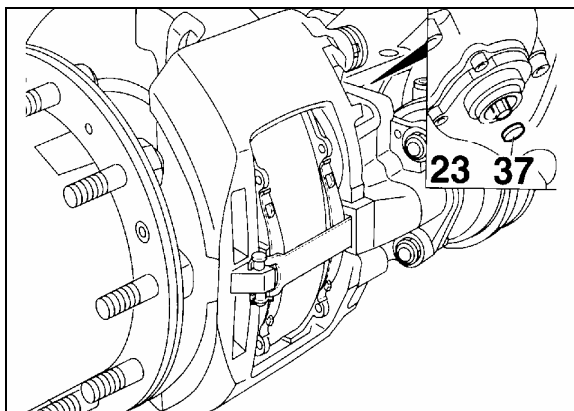

FIGURE 26: ADJUSTER PINION
- a) Remove cap (37, Fig. 26).
- b) Using a box wrench (8 mm), turn the adjuster pinion (23, Fig. 26) counterclockwise about 2-3 clicks to increase running clearance. By operating the braking system about 5-10 times (30 PSI or 2 bar), the wrench should turn clockwise in small increments if the adjuster is functioning correctly (Figs. 26 and 27).